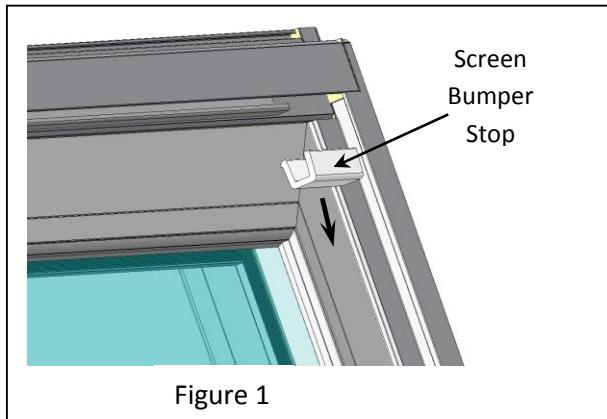
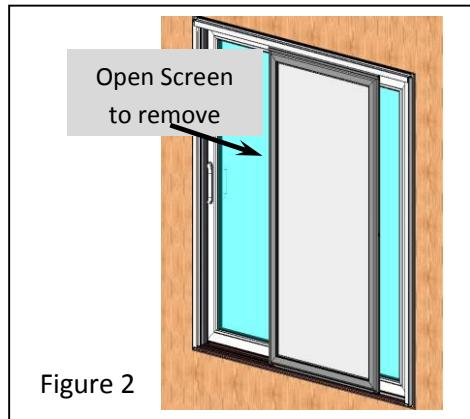

Figure 1
Figure 2
- 1) Start by removing the screen from the door. To remove the screen, take out the Screen Bumper Stop located in the screen track at the top, on the end of the door with the Fixed Panel (Fig. 1). Set the Bumper Stop aside and move the screen to its fully open position (Fig. 2) until the rollers at the top of the screen drop off the roller rail. Lift the screen off the track at the bottom, rotate the bottom of the screen out, and remove it.